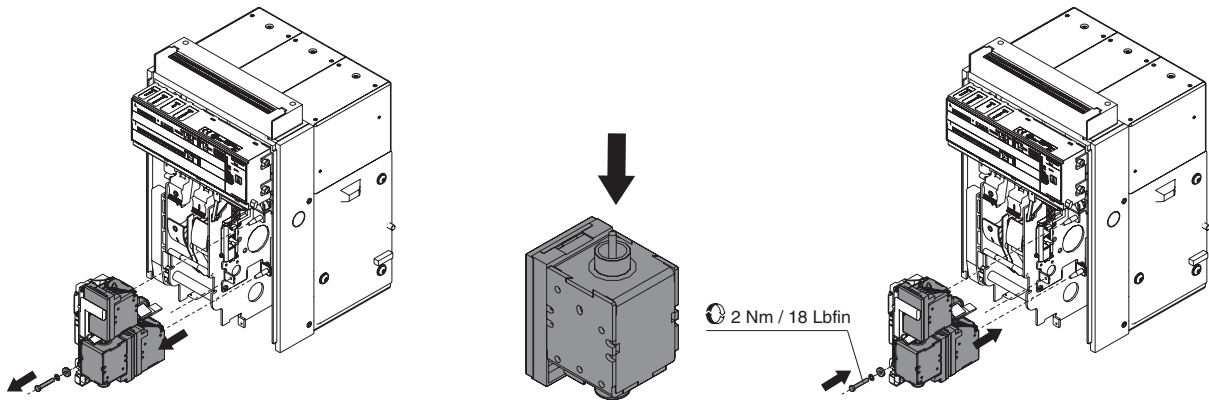

Figure 36.
- Check that the releases (YO-YU-YC) are in good condition (no excessive wear, overheating, breakages) Figure 36.